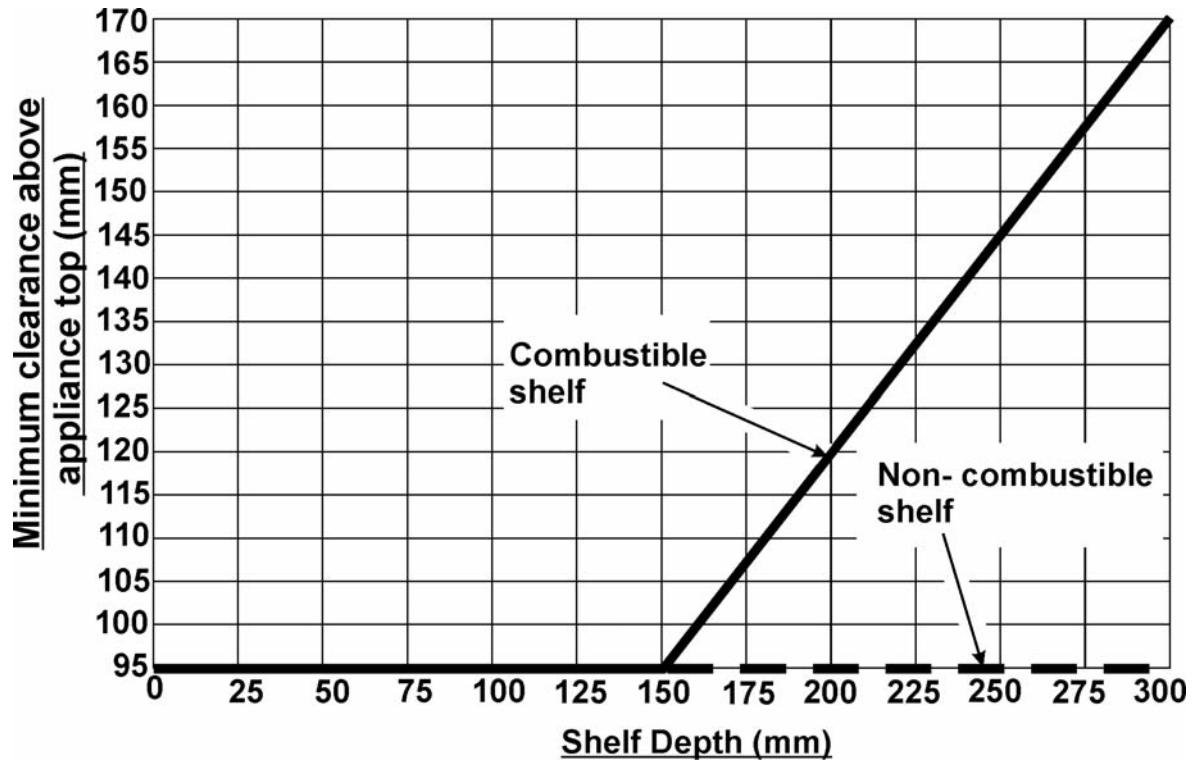

Figure 3. Shelf clearances
- For a shelf deeper than 150mm: 95mm + 12.5mm for every 25mm depth over 150mm (See figure 3).